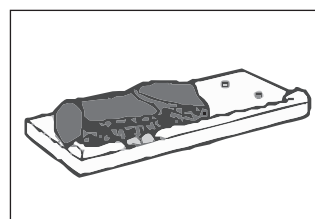

FIG 22
- a) Place log #1 into the 2 front left pins on the burner bed, ensuring that the charring faces the front. Refer **FIG 22**.